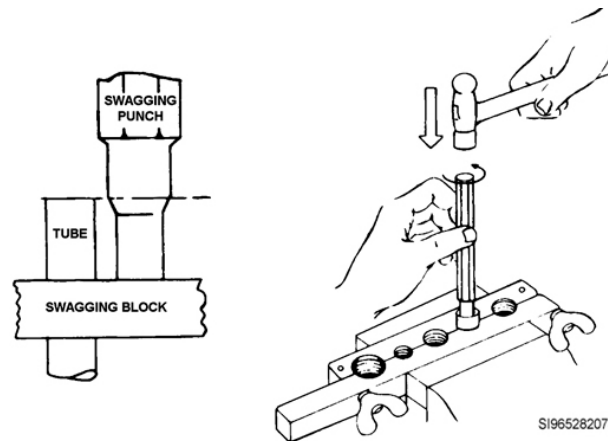

Figure 1-74. Using a swaging kit.
The swaging kit has a swaging punch and a swaging block (fig. 1-74, right). The swaging punch has a small part (called a pilot) that fits easily into the inside of the tubing and a tapered lead that connects to the pilot with an enlarged portion slightly larger than the OD of the tube. The five swaging steps are as follows:
3. Extend the tube above the block a distance equal to the distance from the bottom of the swaging punch to the top of the bevel (fig. 1-74, left).